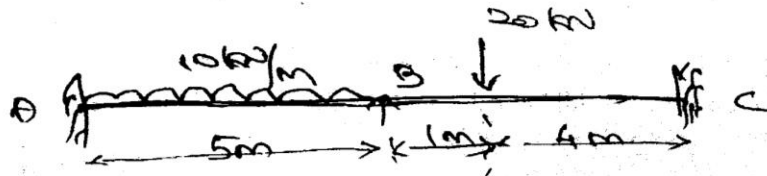

Figure-7
7. Analyze the continuous beam shown in figure-7 by stiffness method. Assume EI is constant.